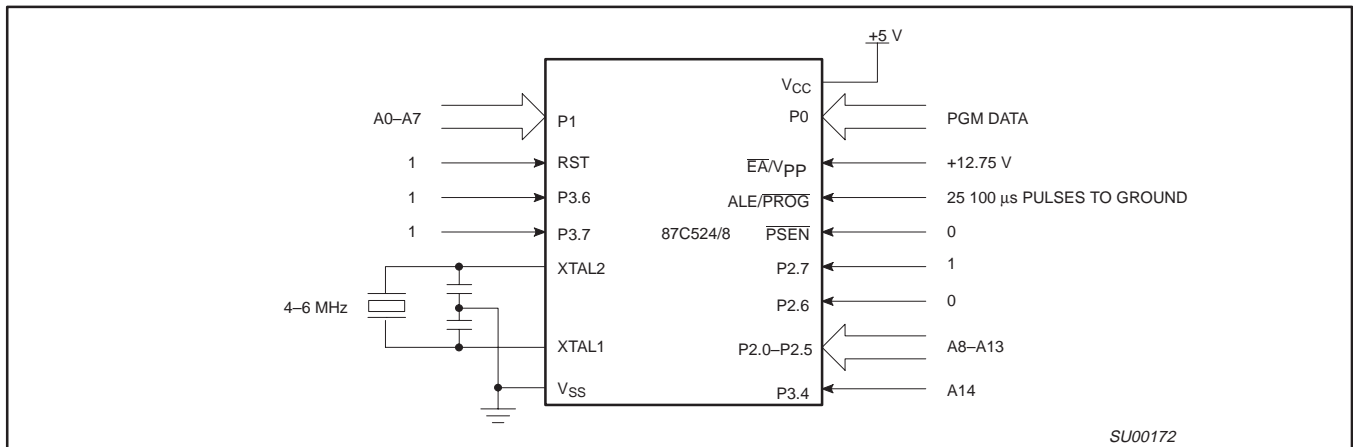
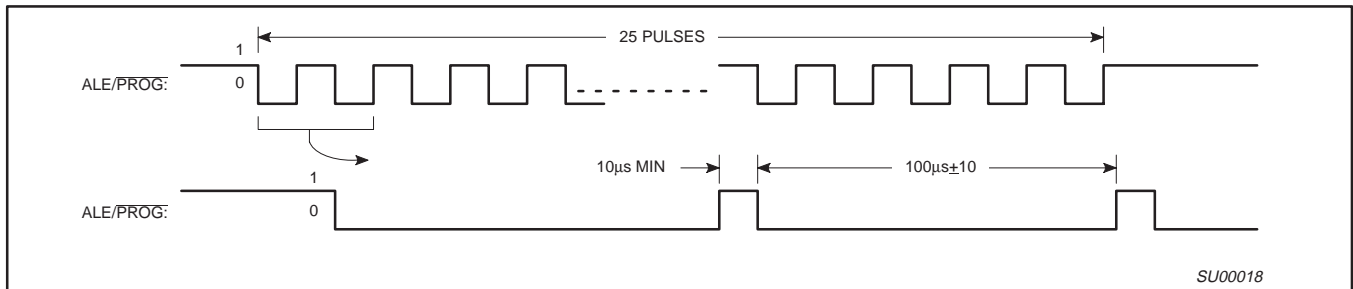
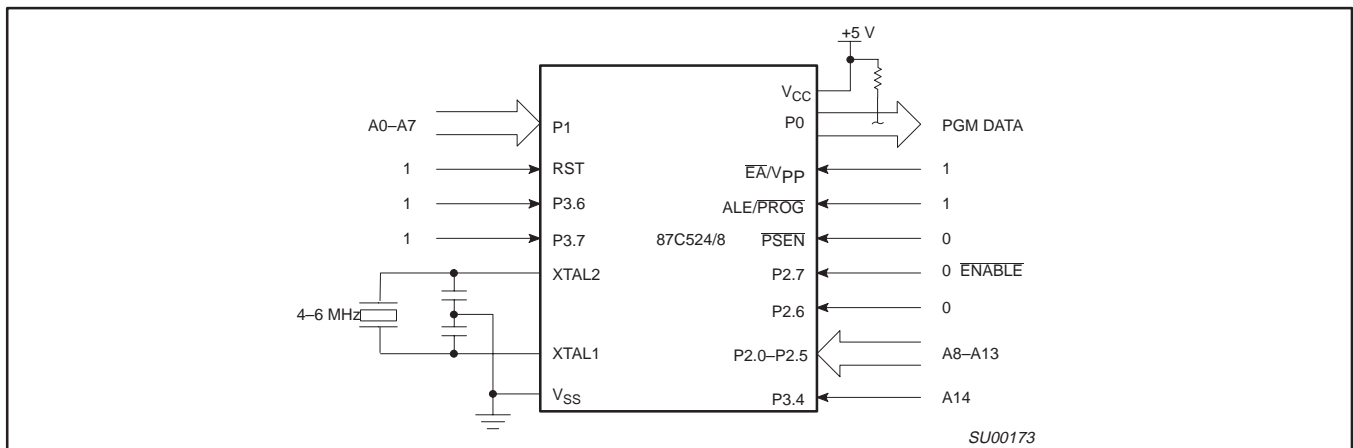

Figure 14. Programming Configuration
Figure 15. PROG Waveform
Figure 16. Program Verification
Table 6 shows the logic levels for reading the signature byte, and for programming the program memory, the encryption table, and the lock bits. The circuit configuration and waveforms for quick-pulse programming are shown in Figures 14 and 15. Figure 16 shows the circuit configuration for normal program memory verification.
The setup for microcontroller quick-pulse programming is shown in Figure 14. Note that the 87C528 is running with a 4 to 6MHz oscillator. The reason the oscillator needs to be running is that the device is executing internal address and program data transfers.
The address of the EPROM location to be programmed is applied to ports 1, 2 and 3, as shown in Figure 14. The code byte to be programmed into that location is applied to port 0. RST, PSEN and pins of ports 2 and 3 specified in Table 6 are held at the 'Program Code Data' levels indicated in Table 6. The ALE/PROG is pulsed low 25 times as shown in Figure 15.
If lock bit 2 has not been programmed, the on-chip program memory can be read out for program verification. The address of the program memory locations to be read is applied to ports 1, 2 and 3 as shown in Figure 16. The other pins are held at the 'Verify Code Data' levels indicated in Table 6. The contents of the address location will be emitted on port 0. External pull ups are required on port 0 for this operation.
The setup for microcontroller quick-pulse programming is shown in Figure 14. Note that the 87C524 is running with a 4 to 6 MHz oscillator. The reason the oscillator needs to be running is that the device is executing internal address and program data transfers.
The address of the EPROM location to be programmed is applied to ports 1, 2 and 3, as shown in Figure 14. The code byte to be programmed into that location is applied to port 0. RST, \overline{PSEN} and pins of ports 2 and 3 specified in Table 6 are held at the 'Program Code Data' levels indicated in Table 6. The ALE/PROG is pulsed low 25 times as shown in Figure 15.
in Figure 16. The other pins are held at the 'Verify Code Data' levels indicated in Table 6. The contents of the address location will be emitted on port 0. External pull-ups are required on port 0 for this operation.
* FOR PROGRAMMING VERIFICATION SEE FIGURE 14.
FOR VERIFICATION CONDITIONS SEE FIGURE 16.